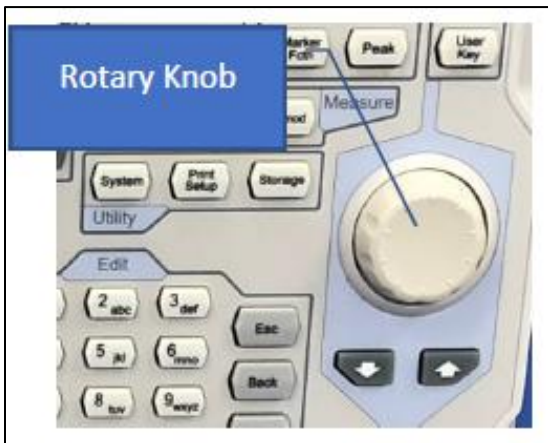

Figure 1.2
2. Use the rotary knob to adjust the RBW value to **10KHz** (see Figure 1.2)